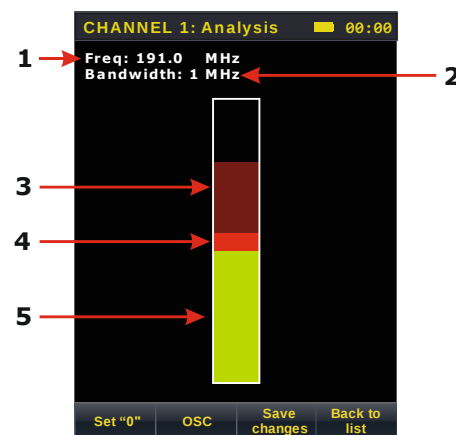

Figure 17
Mode screen "Analysis" presented at Fig.17.
Control of the relative signal level according to the indicator (item 3, 4, Figure 17)